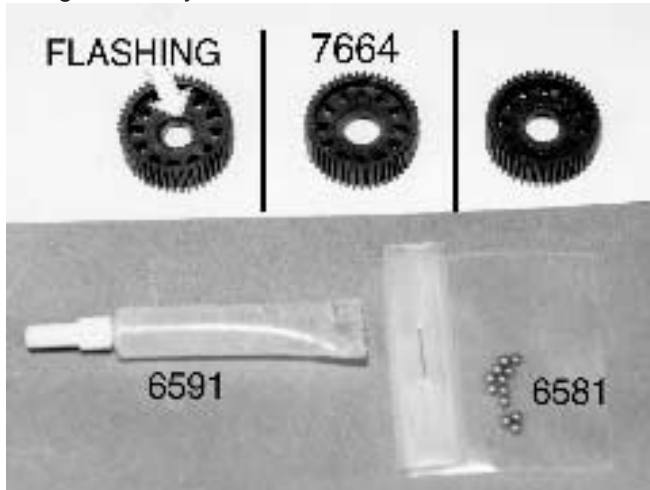

Fig. 43
□ **Fig. 43 (1)** Open the transmission bag; inside you will find bags marked A, B, C, D, E & F. You will also find a gear cover bag, the motor plate and a couple of small tubes of lube. **(2)** Go ahead and locate bag A, the diff assembly. **(3)** From bag A you will want to remove the #7664 diff gear and the small bag containing the twelve #6581 3/32" carbide diff balls (these are the larger of the two ball sizes). These carbide balls are the best available. They will outlast the diff drive rings at least ten times (if the diff is kept clean and lubed).